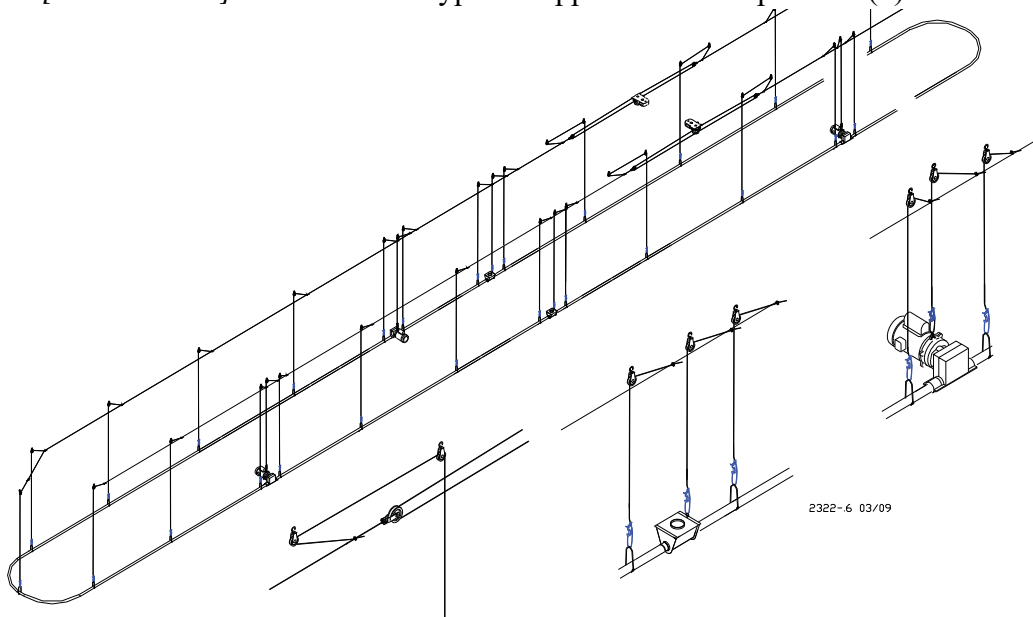

Figure 2. Suspension Layout
2. **Figure 2. on page 11**, shows the proper suspension system for all feeder line lengths. Notice additional support must be provided at each feeder boot, power unit, and elbow location.
Center the line directly over where the feeder line is to be installed. Feeder lines over 350' [107 m] need to use a double back arrangement on the main cable line, see **Figure 2. on page 11**.